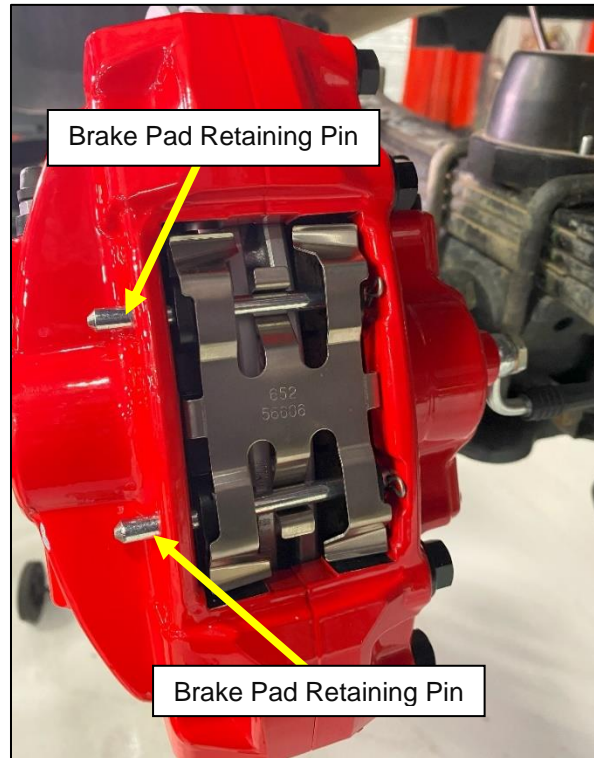

Figure 19
24. Locate (2) two Brake Pad Retainer Pins. Insert them from the inside of the Caliper as shown below. They may need to be slightly tapped with a hammer to go through the Caliper. *Figure 19.*